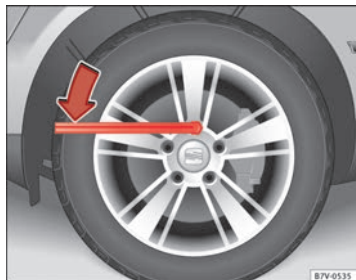

Fig. 184 Changing a wheel: Slacken the wheel bolts.
- Fit the wheel brace as far as it will go over the wheel bolt ⇒ Fig. 184.